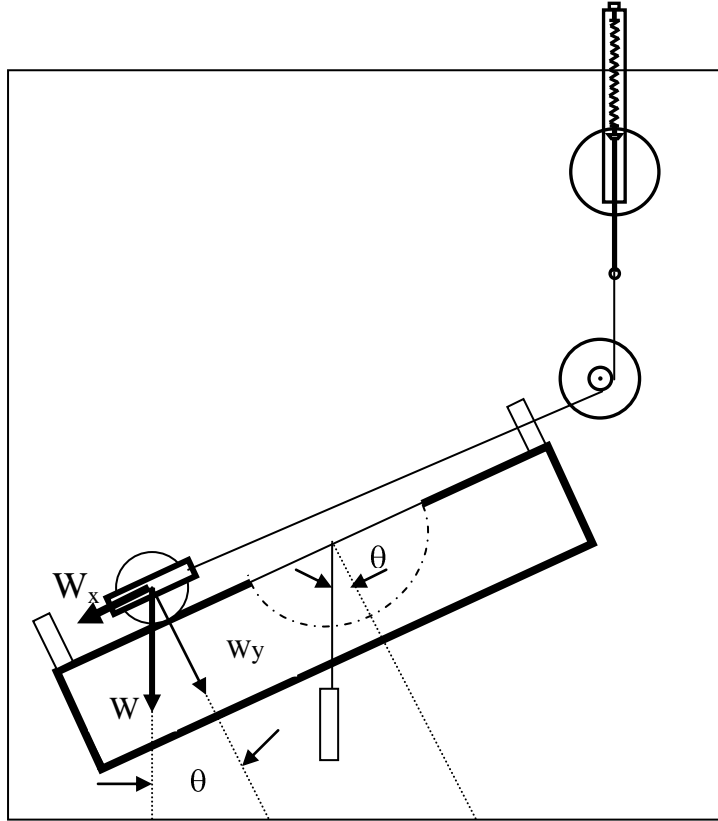

Figure 8.3: Equipment Setup
1. Weigh the rolling mass on the spring balance and record its mass (M) and weight(W).
2. Now set up the equipment as shown in Fig. 8.3. Calculate the force that must be exerted by the string and by the ramp, W can be resolved into two components;  $W_x$ , a component